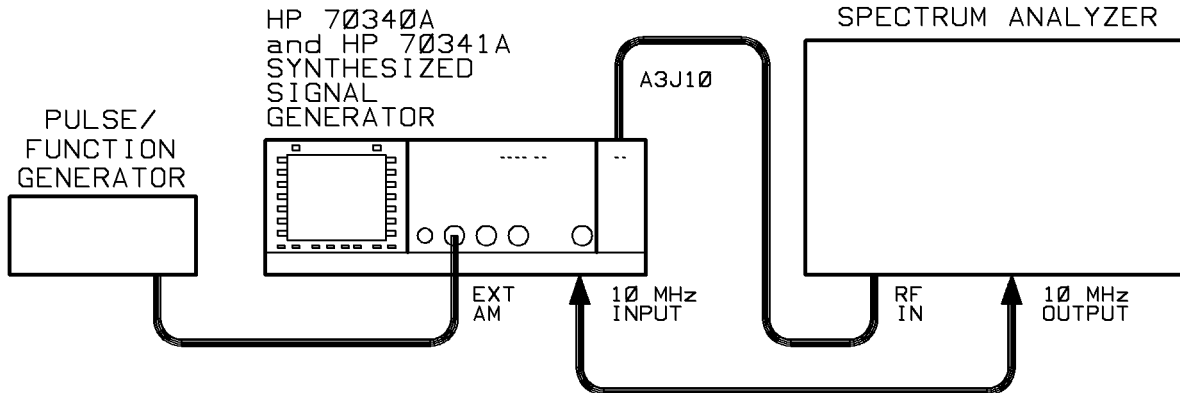

Figure 1-12. Minimum AM Depth Test Setup
2. Connect the equipment as shown in Figure 1-12 with the spectrum analyzer connected to A3J10.
6. Connect the function generator to HP 70340A front panel as shown in Figure 1-12.